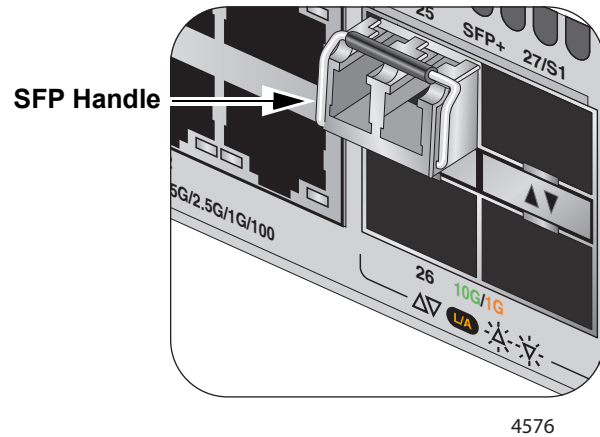

Figure 57. Positioning the SFP or SFP+ Handle in the Upright Position
5. Verify the position of the handle on the transceiver. If the transceiver is in a top port, the handle must be in the upright position, as shown in Figure 57. If the transceiver is in a bottom port, the handle must be in the down position.